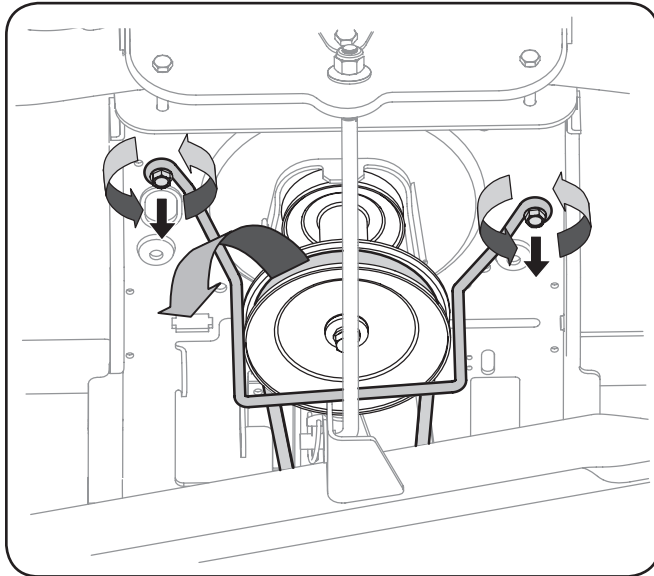

Figure 7-1
3. Locate the PTO clutch under the front of your tractor. See Fig. 7-1.
4. Remove the belt guard and belt as follows. Refer to Fig. 7-1:
11. Replace the belt guard. See Fig. 7-1.